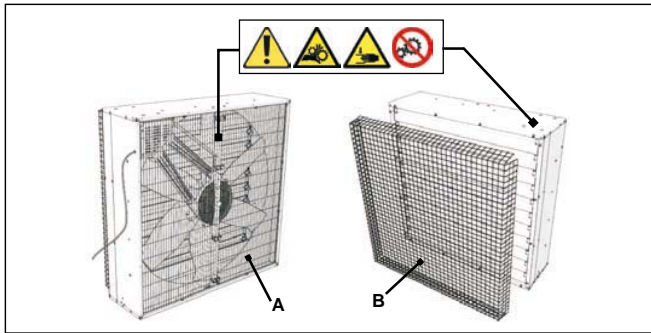

Fig.2
- To correctly install the extractor on the wall, you can use the **S&P** mounting profiles (**Figure 2**). These profiles attach to the interior part with M8 screws, to the sides of the machine, where threaded holes are located for that purpose.
NOTE: Note that to correctly install the extractor on the wall, the **S&P** mounting profiles (**Figure 2**) may be used. These are supplied upon request. Consult our catalogue or visit our website www.solerpalau.com and contact our official distributor.